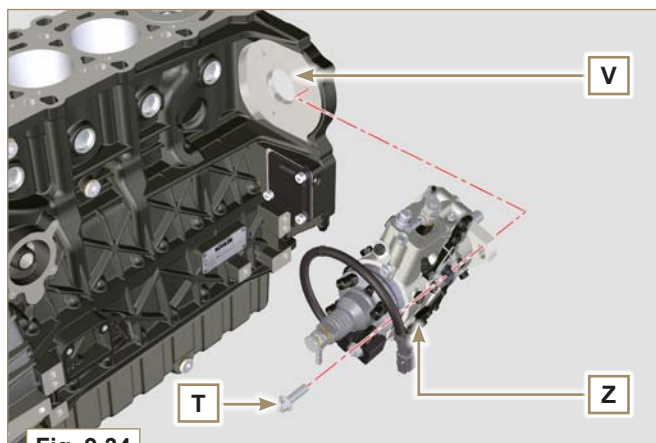

Fig. 9.34
- Always change screws T with new ones or alternatively apply **Loctite 270** (Fig. 9.34) to the threads.
- 7 - Fix pump **Z** into housing **V** by means of screws **T** (Fig. 9.34) - tightening torque at **25 Nm**.